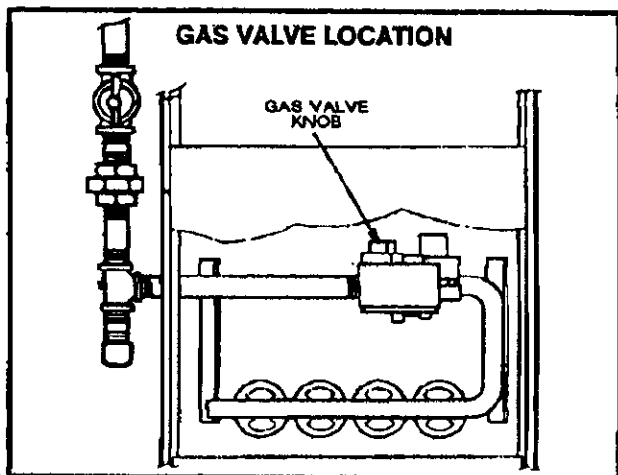

FIGURE 5
- 5- Push in gas valve knob slightly and turn clockwise  to OFF. See figure 5.
- 6- Wait five (5) minutes to clear out any gas. If you then smell gas, STOP! Immediately call your gas supplier from a neighbor's phone. Follow the gas supplier's instructions. If you do not smell gas go to next step.